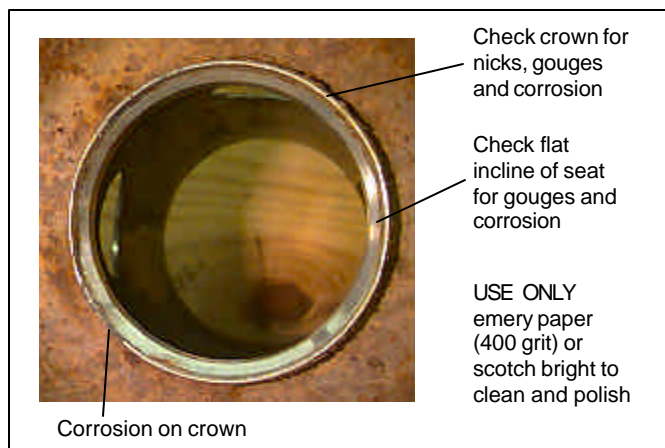

Figure 16 - Valve Seat Inspection
7) Look carefully for nicks, rust, scale, solidified product, and other foreign material on the valve seat (Refer to Fig. 8 in Valve Inspection, and Fig 16 below). The O-ring